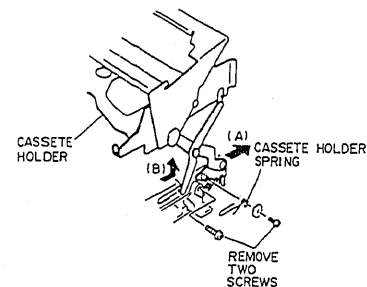

Fig. 2-53
5. Remove two (2) screws holding the cassette holder and cassette holder spring. (See Fig. 2-53)
(See Figs. 2-53, 2-54)